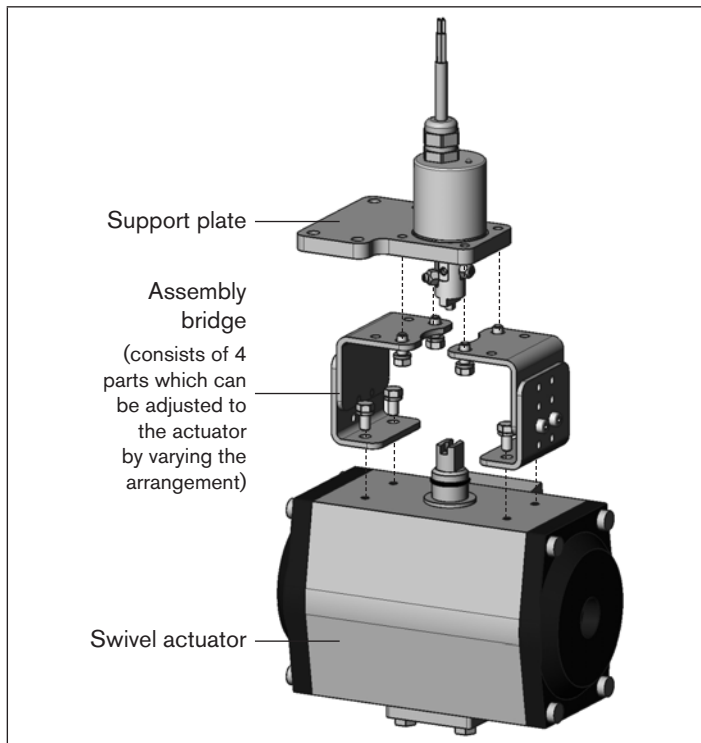

Fig. 23: Fitting the rotating Remote Sensor to a swivel actuator
- Screw the support plate of the rotating Remote Sensor on the assembly bridge, using 4 cheese-head screws and circlips. (Refer to “Fig. 23”).
→ Screw assembly bridge on the swivel actuator, using 4 cheese-head screws and circlips (refer to “Fig. 23”).